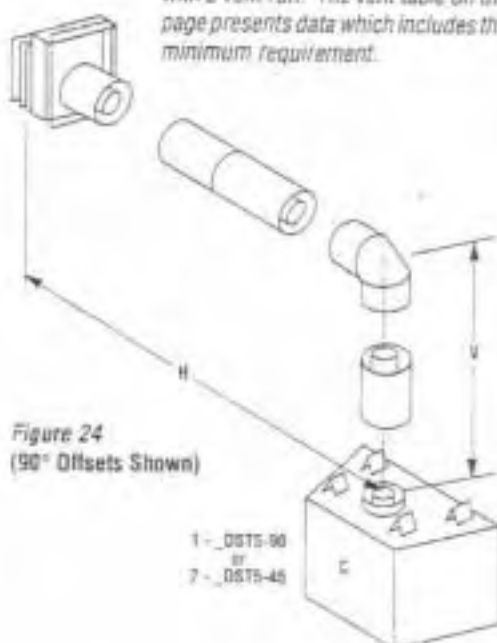

Figure 24
Figures 24, 25 and 26 and the Horizontal Vent Table illustrate the various horizontal venting configurations that are possible for use with these top vent appliances. The maximum horizontal distance for the _DVT8-C and _DVT8-R systems is 11 1/2' (3.5 m). Figures 24 and 25 along with the Horizontal Vent Table identify: (C) horizontal system employing one (1) 90° elbow and (D) horizontal system employing two (2) 90° elbows. The Horizontal Vent Table summarizes each system's minimum and maximum vertical and horizontal values that can be used to design and install the vent components in a variety of applications. Both of these horizontal vent systems terminate through an outside wall. Building Codes limit or prohibit terminating in specific areas. Refer to Figure 9 for location guidelines.